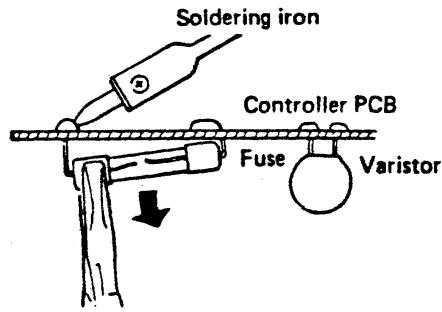

Fig. E-13H
2. Pull out the fuse at the metal clasp by a pair of pliers while heating the soldered leads on the back side of the controller PCB with a soldering iron (30W or 60W). Fig. E-13H.